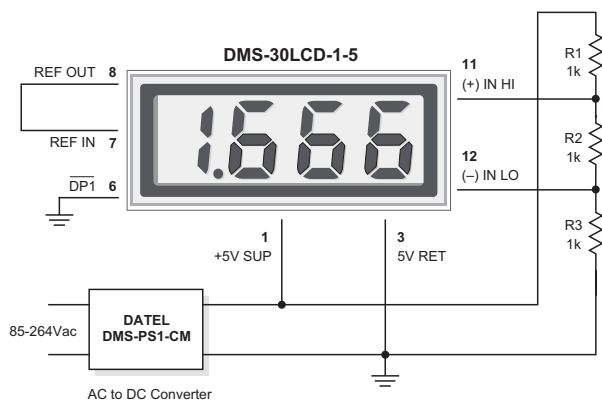

Figure 3. Differential Input Configuration
- 2. Differential Input Configurations:** Differential measurements can be made with either 5V-powered or 9V-powered meters. Figure 3, though not a practical real-world application, uses a voltage divider to demonstrate the concept of a differential input signal. Be careful not to exceed the $\pm 2V$ common mode voltage limitation for 5V-powered meters.